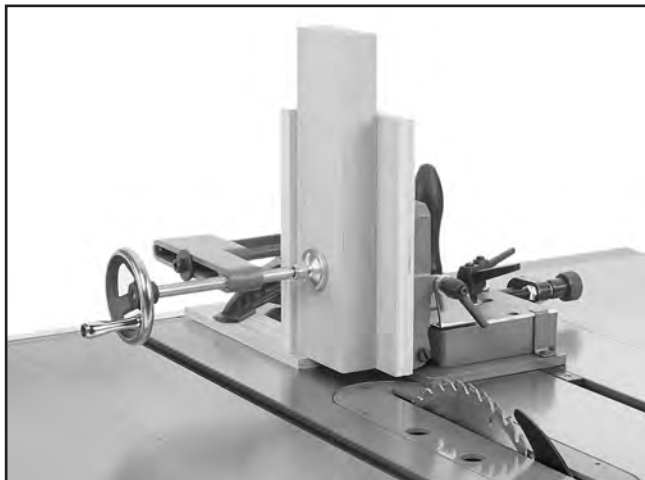

Figure 23. Workpiece correctly mounted to the jig.
- Place the workpiece firmly against the back and side support backing boards, as shown in **Figure 23**, then use the clamp handwheel to securely hold it in place.